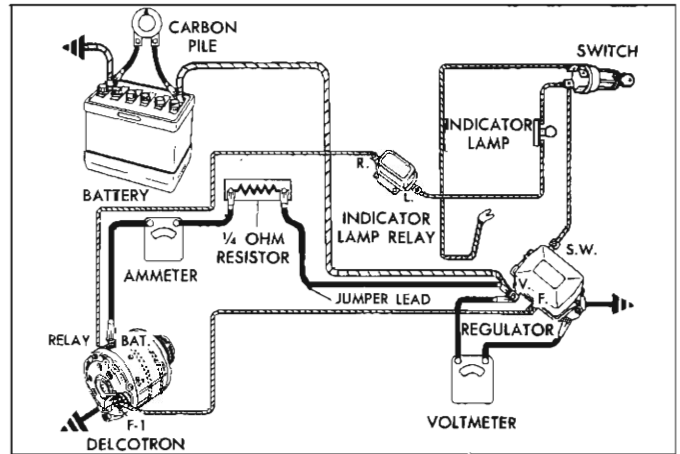

Fig. 19—Checking Voltage Regulator Setting
1. Make connections as shown in Figure 19.